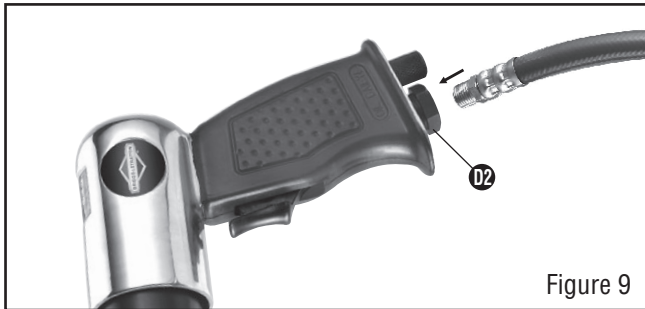

Figure 9
5. Mount a leader hose (not included) by hand into the air inlet (D2). (See Figure 9)